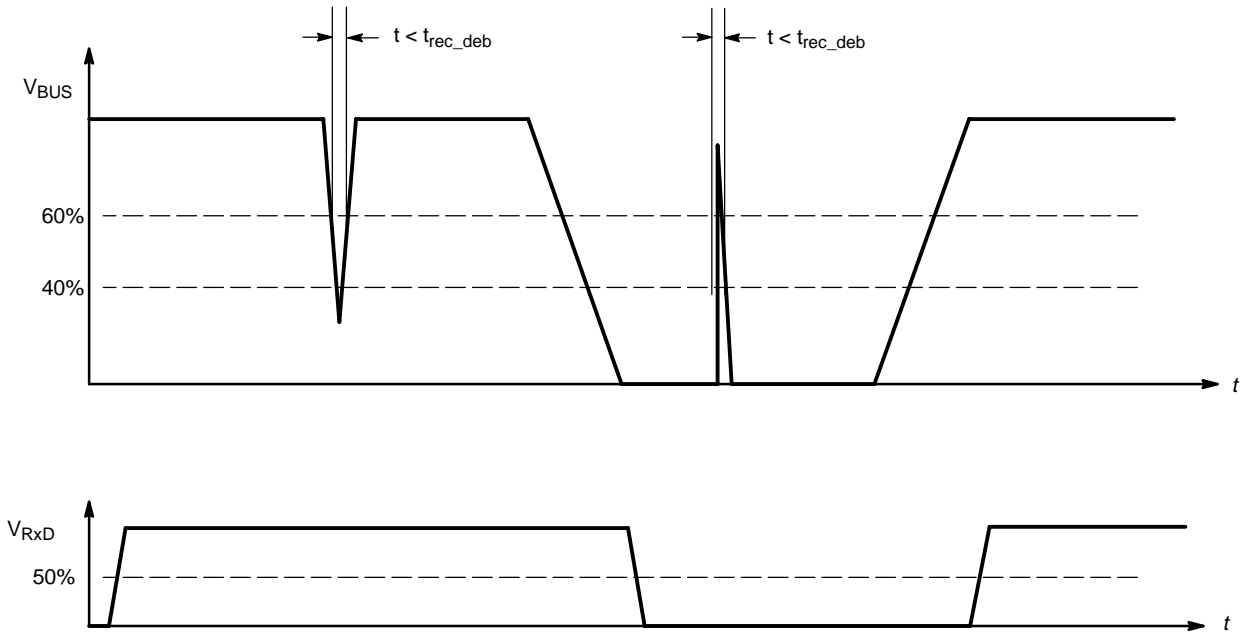
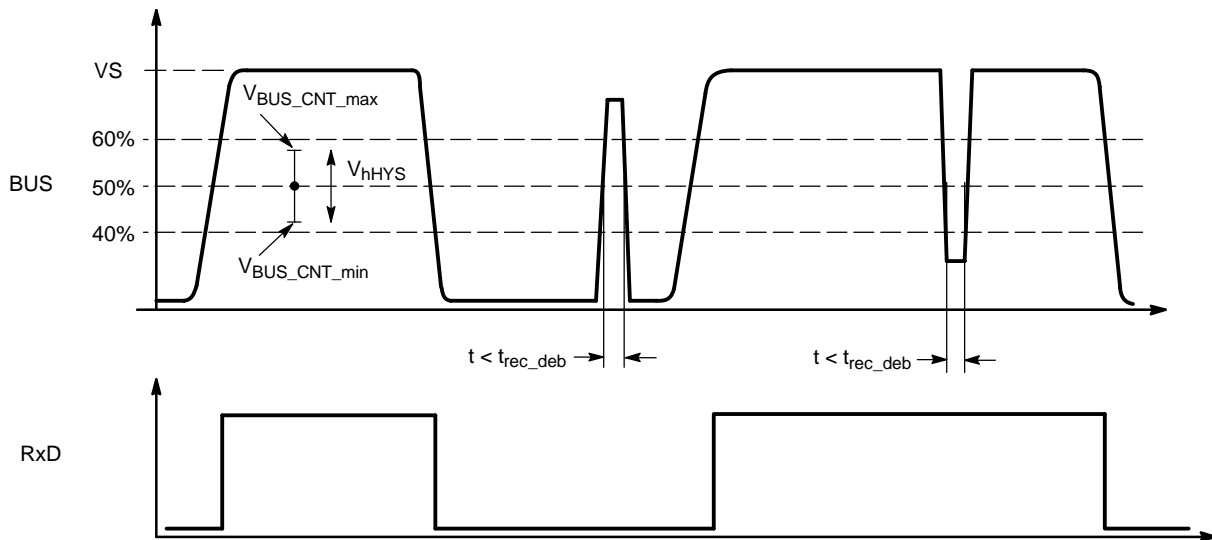

Figure 3. Receiver Debouncing Filter
Figure 6. Receive Impulse Diagram
13. See Figure 3 – Receiver Debouncing.
The signal on the BUS pin will be transferred continuously to the RxD pin. Short spikes on the bus signal are filtered with internal circuitry (Figure 3 and Figure 6).